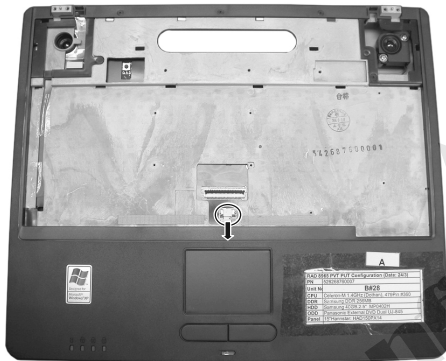

Figure 2-26 Disconnect the cable
2. Disconnect the touch pad's cable from the system board. (Figure 2-26)